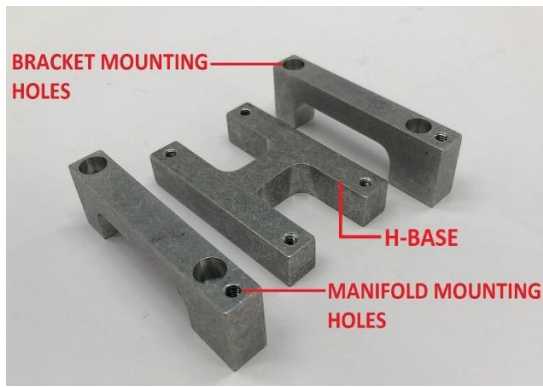

FIGURE 1
- i. To install the mounting bracket, slip the H-Base (**Fig 1**) under the valve plate, then secure each top bracket using the FOUR 1" (T75 models) or FOUR 1 ¼" (T100 models) Allen head screws provided, making sure to tighten in an alternating pattern so that the bracket sits evenly (**47-50 in lbs**). The top brackets will not seat on the H-Base when fully secured (**Fig 2**). The furthest outside holes are for securing the manifold assembly using the TWO 1 ¾" screws provided (**47-50 in lbs**).